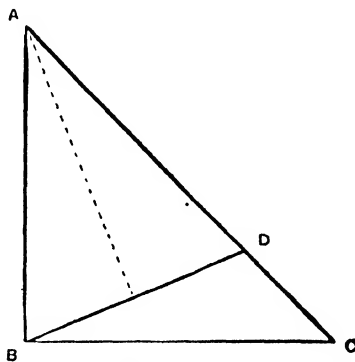

Fig. 575. --Pattern for Umbrella Cover.
**Cover Making.**—First make the pattern by which to cut out the sections or gores. This may be of strong paper, but for permanent use sheet zinc is best. Cut neatly a square of paper, each edge of which is exactly the same length as the frame on which the cover is to be placed—that is, a 25-in. frame would take a square of paper with edges 25 in. long. Cut this across from one corner to the opposite corner to produce a piece shaped like *ABC* in Fig. 575. Measure from *A* towards *C* the same distance as from *A* to *B* (in this case 25 in.), and then cut along the line *DB*. The part *ADB* now forms the complete pattern. By measuring down the centre as shown by dotted line, the width of cloth necessary to cut the cover will be discovered. For 25-in. covers, cloth 22 in. wide is required. Always place the edges *BD* towards the selvedge edges of the cloth being cut, and allow a margin for hemming and sewing together. Sew the top of the cover with strong thread after machining.